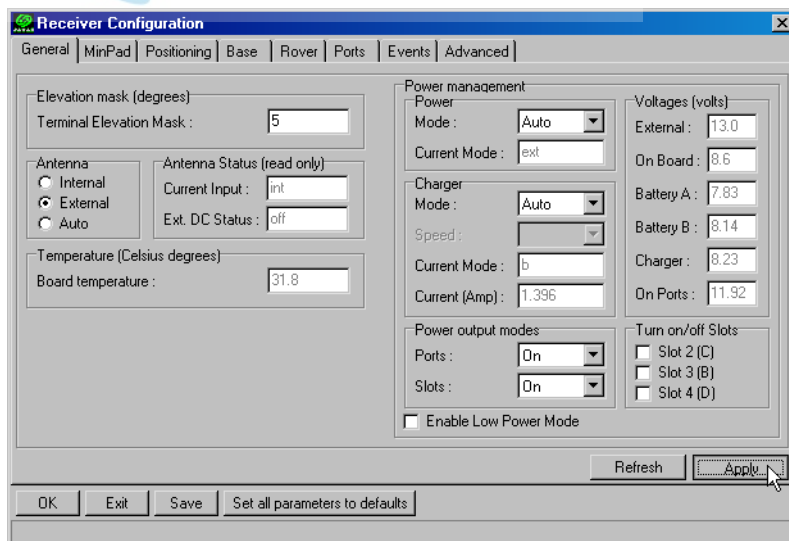

Figure 3-4. Select External Antenna Option
4. On the **General** tab, select the **External** Antenna option (Figure 3-4).